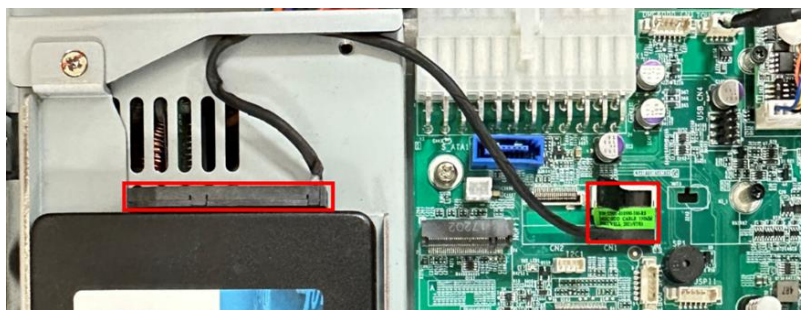

Figure 3-5: SATA Cable
Step 5: Connect the SATA cable. See **Figure 3-5**.